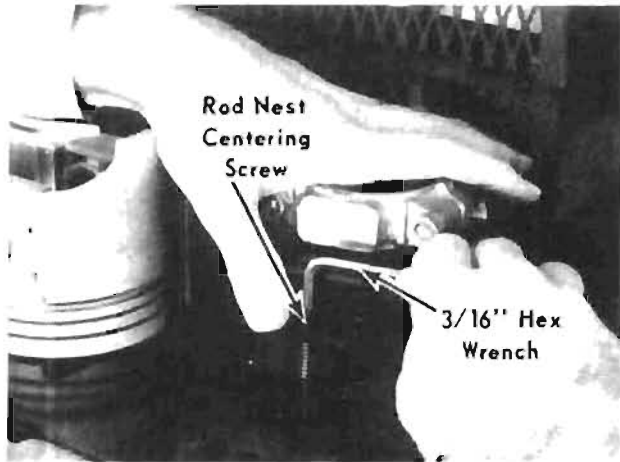

FIGURE 12
3. Using the 3/16-inch hex wrench, adjust the Rod Nest Centering Screw so the rod is centered vertically in the Heating Unit. See Figure 12.